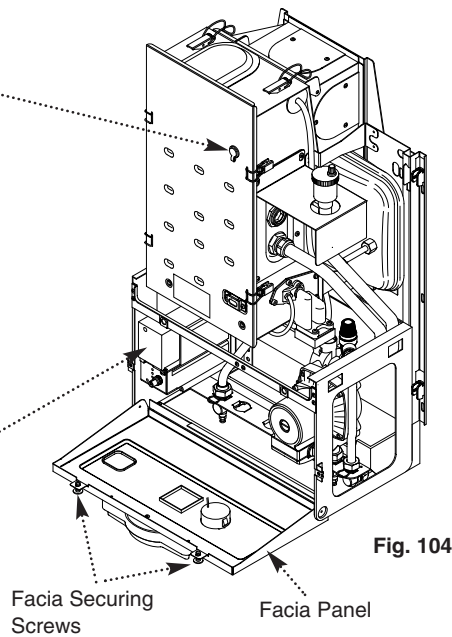

Fig. 104
2. Undo the 1/4 turn screws and drop the facia panel down (Fig. 104).